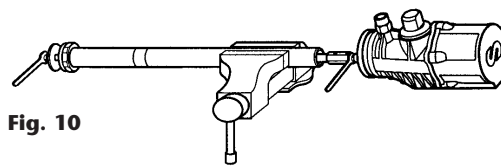

Fig. 10
4. Introduce an open end wrench in the milling of the lower part of the air piston and unscrew the nut and remove the washer (fig. 10).